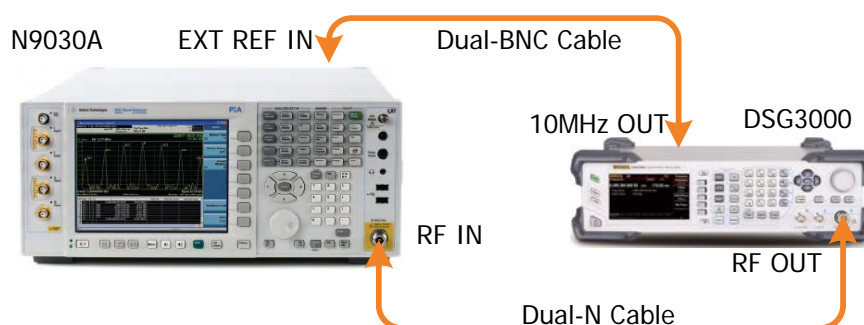

Figure 2-4 Second Harmonic Distortion Test Connection Diagram
1. Synchronize the DSG3000 and signal analyzer. Connect the RF output terminal of the DSG3000 with the RF input terminal of the signal analyzer as shown in Figure 2-4.